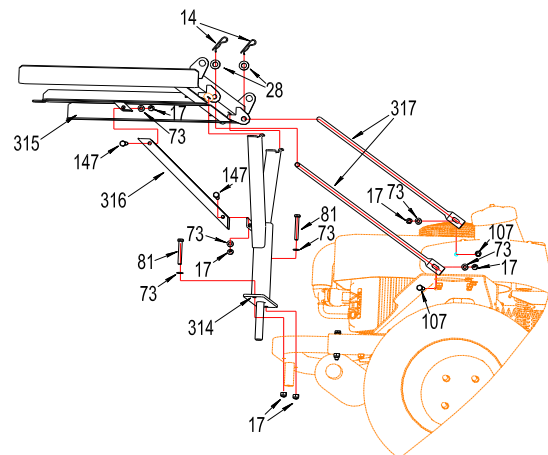

FIG 6
- Insert Part No. 317 (connecting rods) into holes provided on inside tabs of bag base frame. Install washers and hairpin cotter pins. Connect lower end of rod to machine through hole of rod and hole provided in tank support bracket with bolts, washers, and nuts; tighten. (FIG 6)